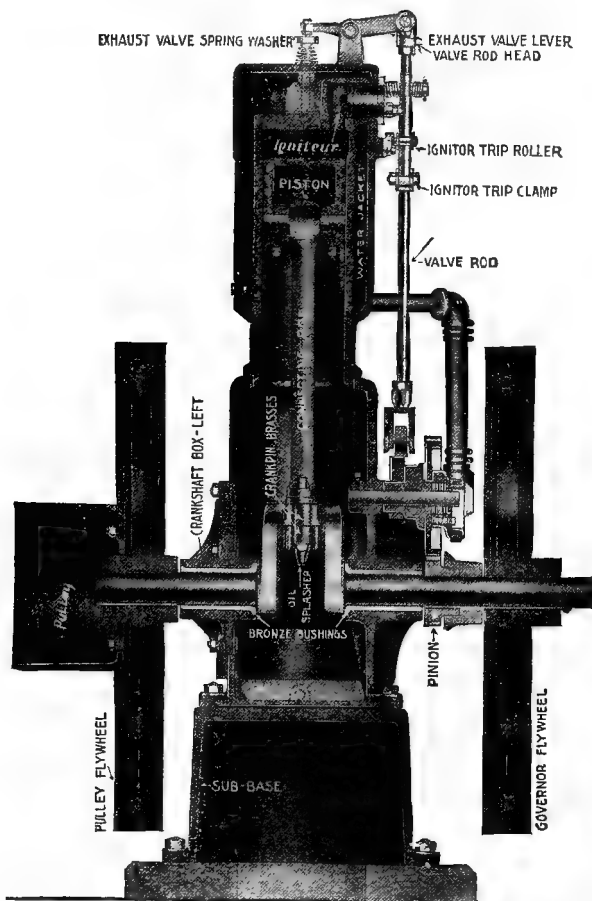

FIG. 10.—Sectional View of Vertical Engine, Showing Important Components.
20. The Four-Cycle Engine.—In the illustration (Fig. 5), the piston, P, is near the closed end or head of the cylinder, S; the exhaust valve, B, which opens inward, is shown as closed, and during the suction stroke is held shut by a heavy spring. (See top of cylinder, Fig 10.) As the piston descends it leaves a vacuum behind it; in other words, creates a suction